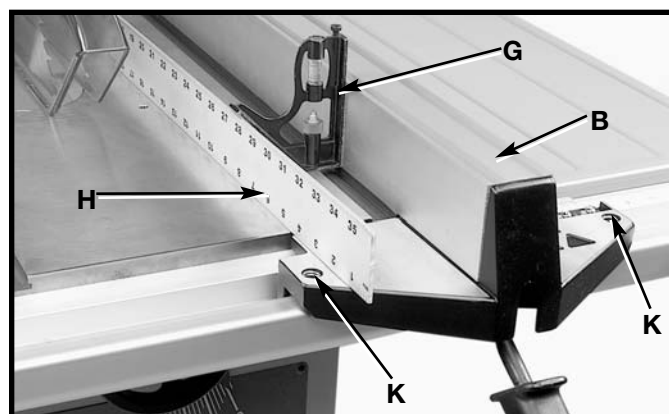

Fig. 57
3. Using a square (G) Fig. 57, and a straight edge (H), check to see if the rip fence (B) is **perpendicular** to the saw table and that the rip fence body is level with the saw table. If a **perpendicular** adjustment is necessary, **tighten or loosen either of two screws (K) Fig 57** until the fence is perpendicular and level with the saw table.